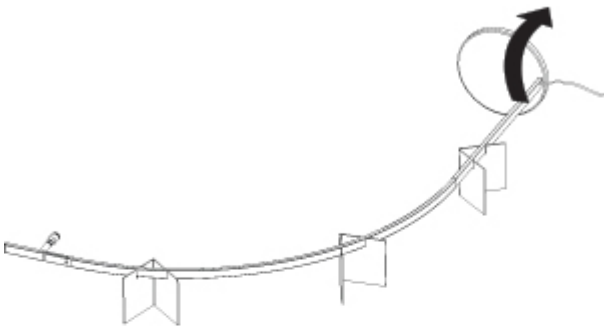

Figure 3
4. Once the stem and weighted base are securely attached, carefully tip the lamp up to a standing position. To avoid bending the stem, grasp the stem as closely to the base as possible. Utilize the help of a second person whenever possible. (Figure 3)